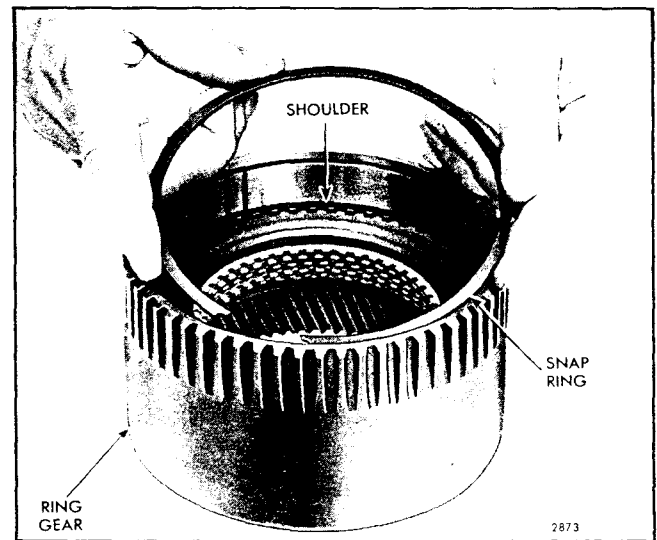

Fig. 56 - Installing Forward Clutch Pressure Plate Snap Ring in Ring Gear
- f. Install the forward clutch pressure plate snap ring inside the ring gear and seat it squarely on the internal shoulder inside the ring gear as shown in Fig. 56.
NOTE: The forward clutch pressure plate snap ring shown in Fig. 56 is .090" to .093" thick and has a free diameter of $5-19/32" + 1/16"$ and is only used as a spacer and clutch release spring seat. The groove at the top of the shoulder in the ring gear is not designed to accommodate the snap ring.